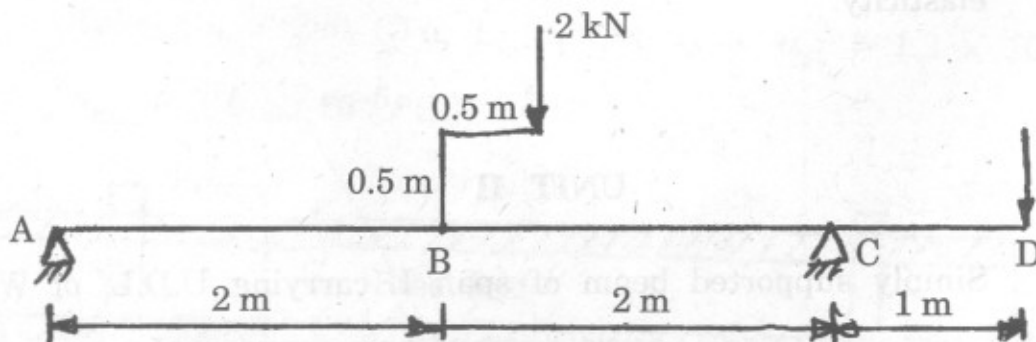

Fig. 3
4. (a) Determine slope and deflection at point B and maximum deflection for the beam as shown in Fig. 3. Take $E = 200 \text{ GPa}$, Moment of Inertia $I = 20 \times 10^{-5}$. [8]